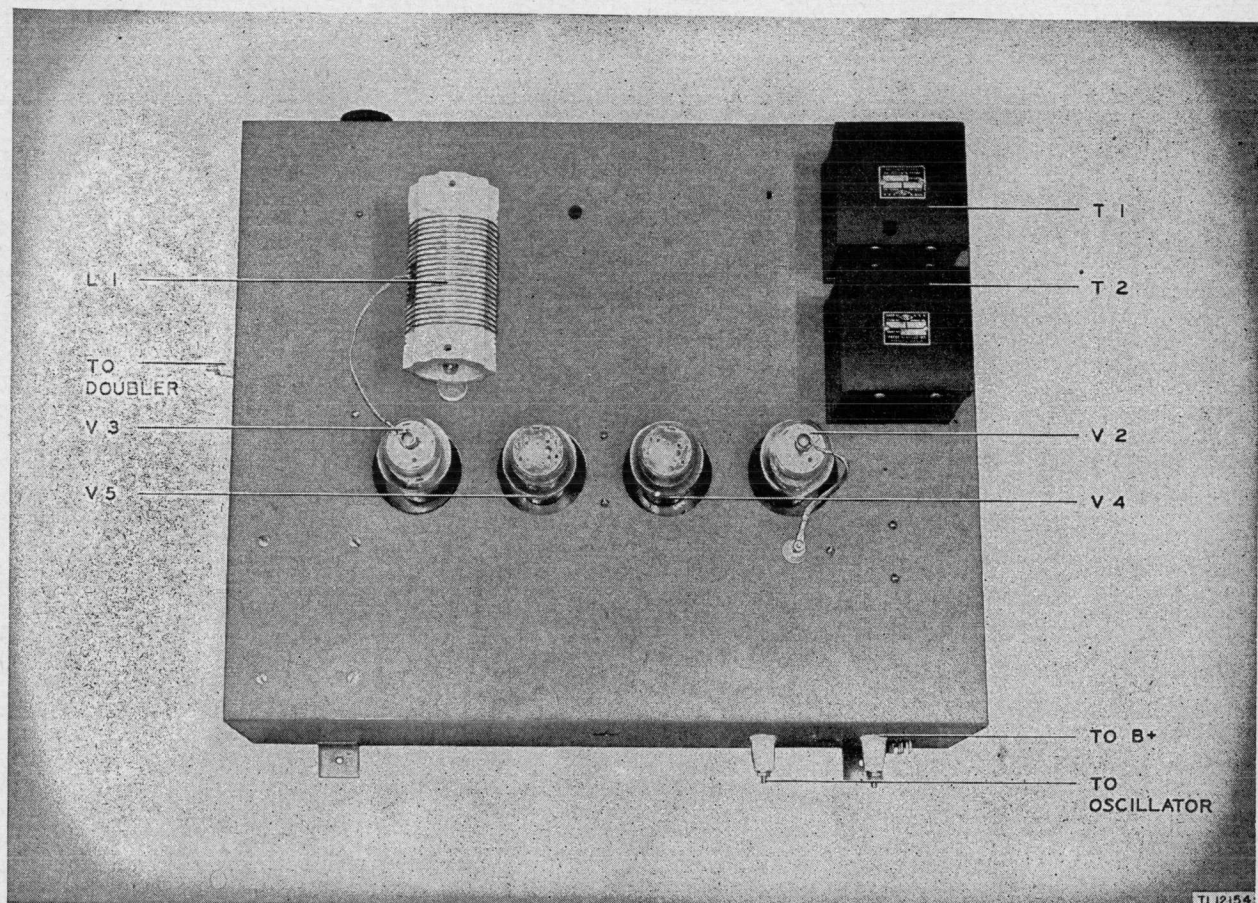

Figure 46. Buffer chassis, top view.
a. Buffer tube V2 (fig. 46) is a beam power tetrode Tube JAN-807. Since a screen grid tube is used in the amplifier and the circuit components are properly shielded, neutralizing of this stage is unnecessary. Bias for the stage is developed by grid resistor R3 and cathode resistor R4, which is bypassed for r-f by capacitor C5. Meter M2, which is bypassed for r-f by capacitor C6, measures the cathode current of the stage. In this case the cathode current will be the same as the plate current. The plate load for the tube is inductor RF2, the bottom end of which is at r-f ground potential through capacitor C8. The r-f voltage developed across inductor RF2 is applied to the grid of V3 through coupling capacitor C9. Screen grid voltage for V2 is obtained from potentiometer R39 (KEYING SHAPER) which is connected across part of bleeder resistor R38. Adjustment of potentiometer R39 provides a convenient method of varying the screen grid voltage and thus the output of the stage. Capacitor C7 is the screen grid r-f bypass capacitor maintaining the screen grid of tube V2 at r-f ground
a. The keyed stage tube V3 (fig. 46) is a beam power tetrode Tube JAN-807, and the keyer tubes V4 and V5 are triode Tubes JAN-2A3. The keyed